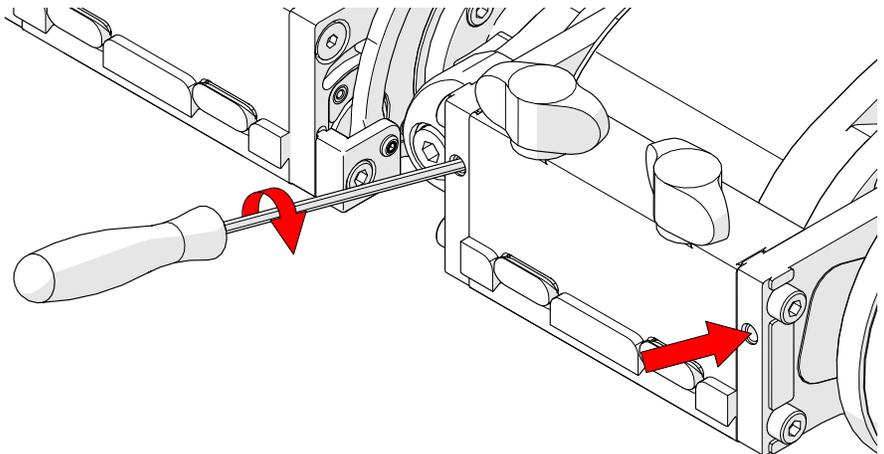

Fig. 26 - Tighten the set screws of the swivel mount.
6. Using the 2 mm hex driver, tighten the set screws of the left drive module's swivel mount. Preventing the swivel mount from movement (Fig. 26).